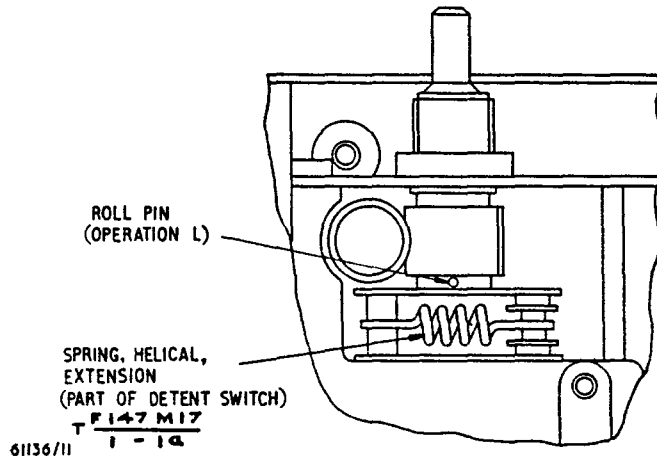

Fig 1a - Modification detail
- d. Unscrew the 4 Phillips securing screws on the switch mounting plate and carefully remove the plate. Make a note of the position and quantity of shims under each corner of the mounting plate and retain for use later. Refer to Fig 1a and 1b for this and subsequent operations.